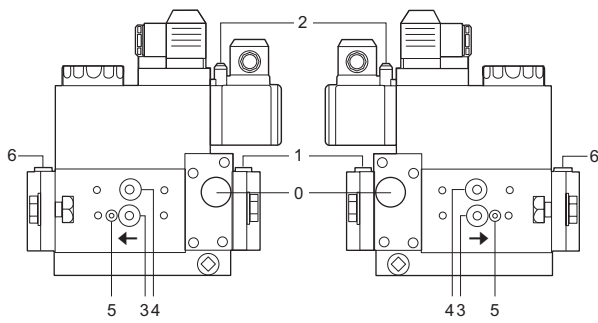
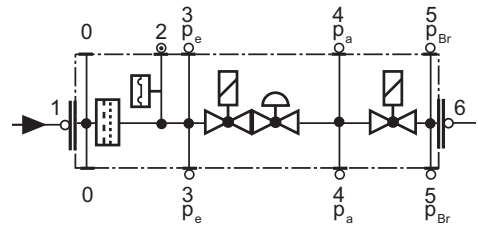

Fig. 28
Fig. 29
- Change the filter if the pressure difference between pressure connection 1 and 3 (Fig. 28-Fig. 29) is $\Delta p > 10$ mbar.
- Change the filter if the pressure difference between pressure connection 1 and 3 (Fig. 28-Fig. 29) is twice as high compared to the last check.